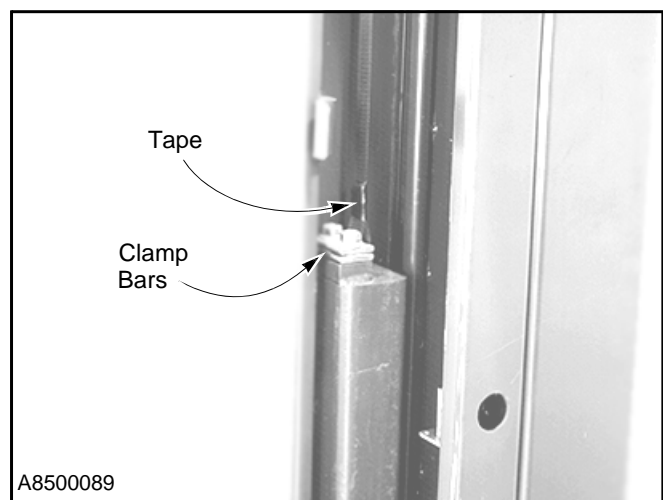

Figure 45
7. Loosen the clamp bars that secure the strap to the counterweight. (See Figure 45)